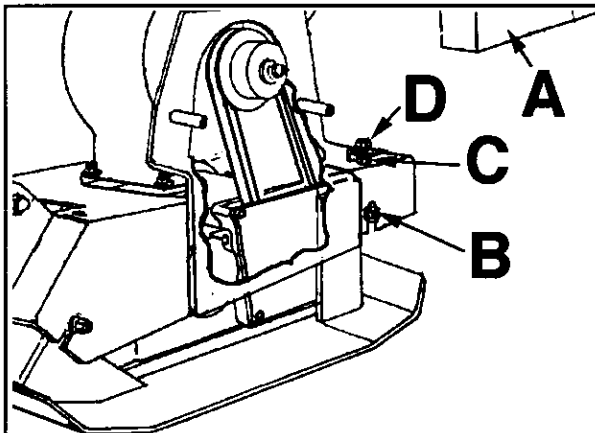

Figure 13-2 - V-Belt Tension/Alignment Adjustment.
1. Remove the belt guard cover 'A', refer Figure 13-2
2. Loosen the front mounting bolts 'B', refer Figure 13-2 .